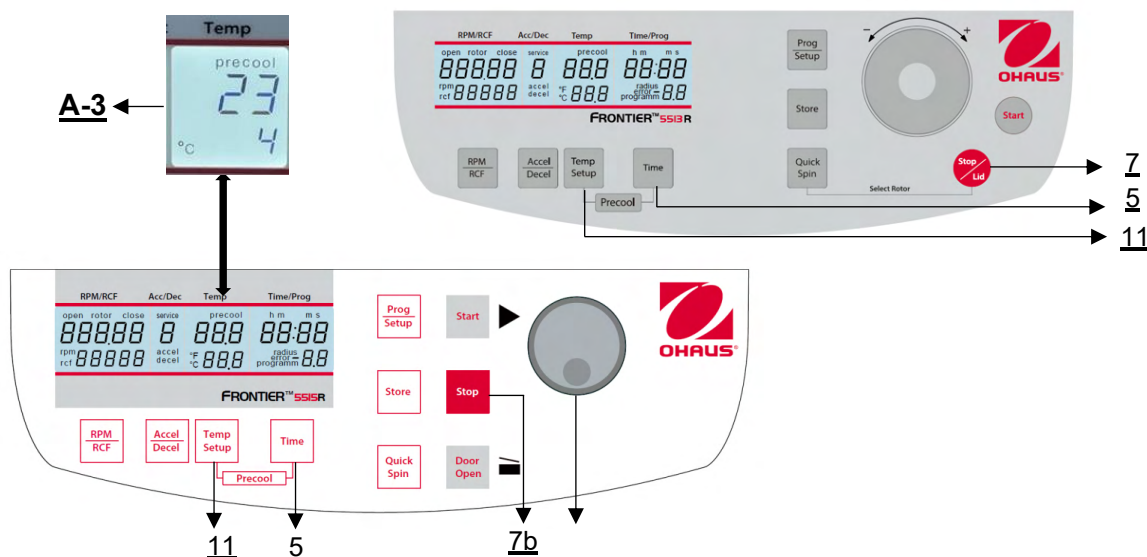

Figure 16
If the samples are temperature-sensitive it is useful to pre-cool the centrifuge, the rotor and eventually the buckets to the required working temperature. Therefore, insert the desired rotor and pre-set the respective temperature. By simultaneous pressing the keys **"Temp/Setup"** (11) and **"Time"** (5) you can start the run (**Figure 16**). While running, the unit chooses automatically a rotational speed that is equivalent to 30 or 50 % of the permitted rotational speed of the respective rotor (depending on the rotor). After the pre-set temperature is reached you can leave the pre-cooling run with the key **"Stop"**(7b) or **"Stop | Lid"** (7).